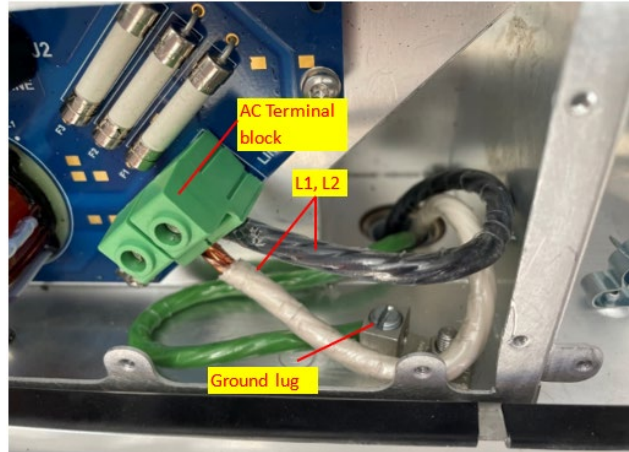

Figure 14: Wiring in the AC Terminal of the Wall Box
3. Route the wires into the entry point to the Wall Box as shown below, in Figure 14. Strip the insulation from the wires $\sim 1/2$ at the ends in (13mm) and connect each wire in its terminal block. Connect L1 to line and L2 to neutral wires to the terminal block.